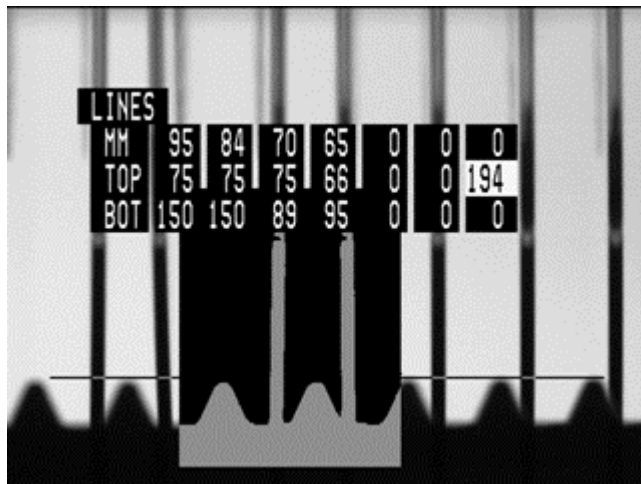

Figure 9 Using a line to test Yaw
2. Turn the dial on Eyebot to OPTION, select LINES, press YES several times to select an unused disk size as shown in Figure 9, press UP to move the long line down to the top of the ribs. You are going to use this line as a level site.